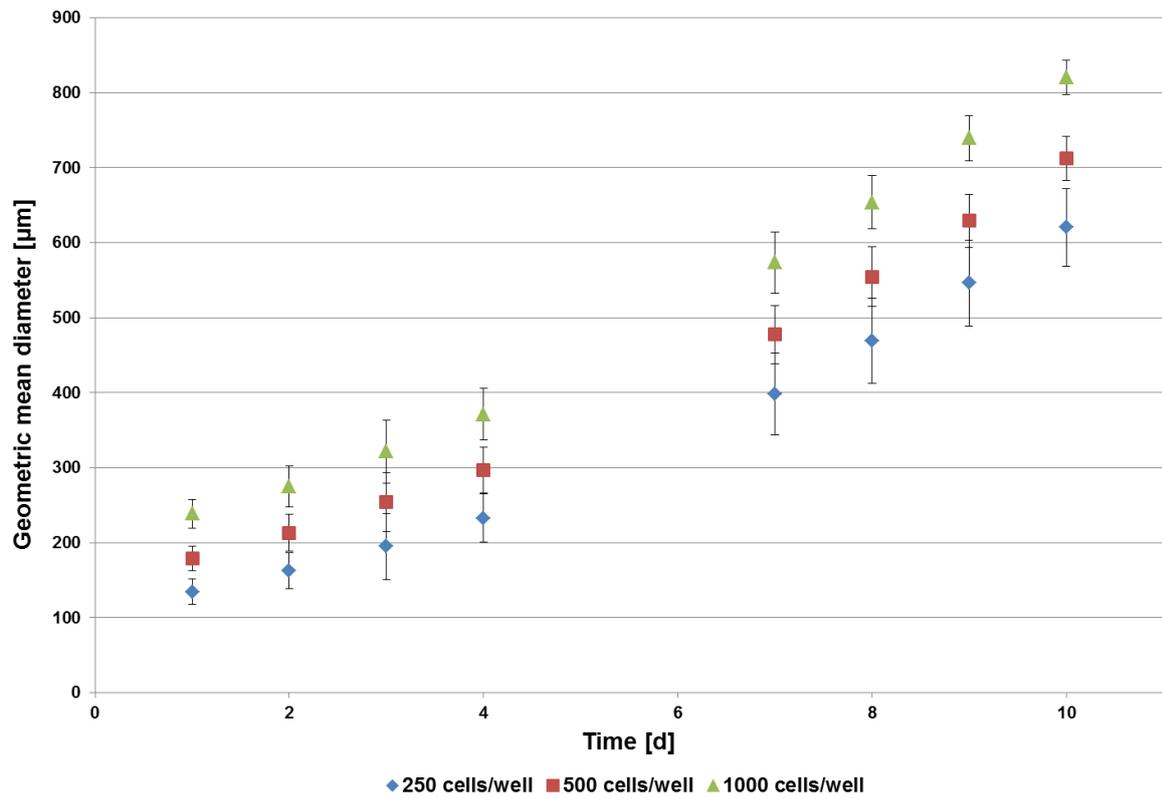

Figure 2 Spheroid growth of MCF-7 spheroids is dependent on the seeding concentration and the cultivation time.
- Spheroid formation, growth kinetics and spheroid characteristics are cell type dependent (Figure 2, 3).